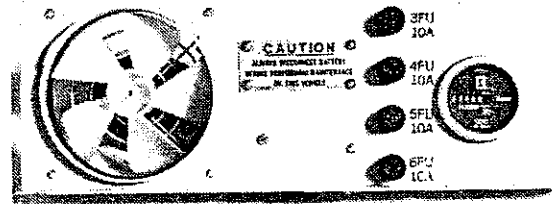

Figure 3-4
3.16. The line circuit control fuse (3FU) may be open. Remove the fuse holder cap by pushing inward and twisting until the cap and fuse can be removed. Examine the ribbon for signs of overcurrent damage. Excessive fuse openings may be due to shorts in associated components or wiring (Fig. 3-4).